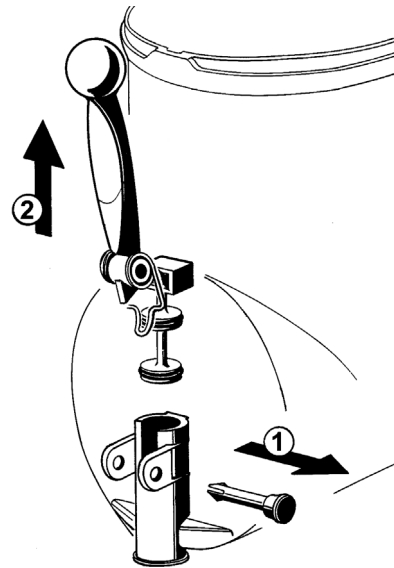

figure 12
the handle. (see figure 12).
- 3 Assemble the faucet by reversing the disassembly steps (see figure 12)